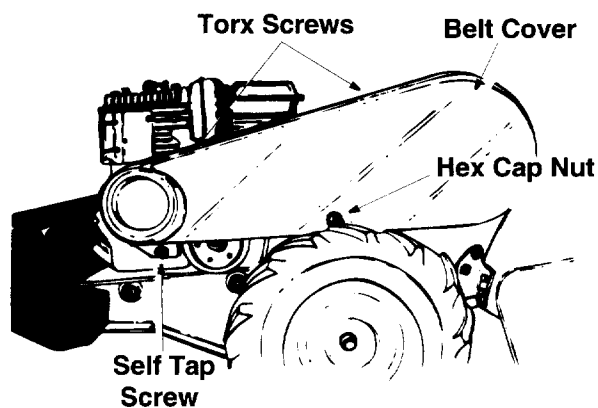

Figure 11
2. Remove the belt cover from the left side of the tiller as follows: See Figure 11. Remove two torx screws from the top of belt cover.